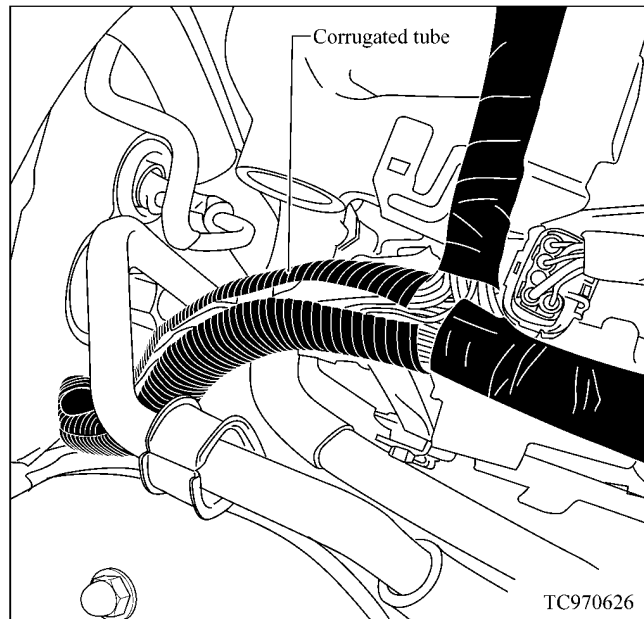

Figure 11
14. Install the countermeasure corrugated tube around the wire bundle (see Figure 11). Tape the ends of the corrugated tube securely to the harness at either side of the bend with electrical tape.